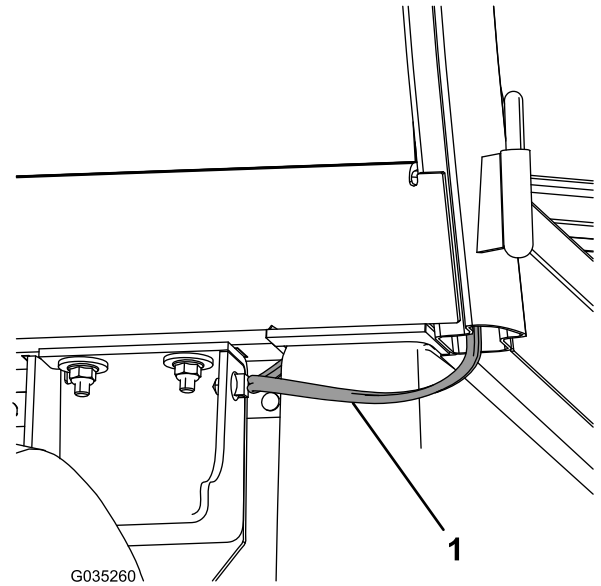

Figure 19
4. Route the wire harness behind the cab and under the seat, and secure the clip on the wire harness to the side panel (Figure 19).
3. Route the wire harness behind the cab and under the seat, and secure the clip on the wire harness to the side panel (Figure 19).